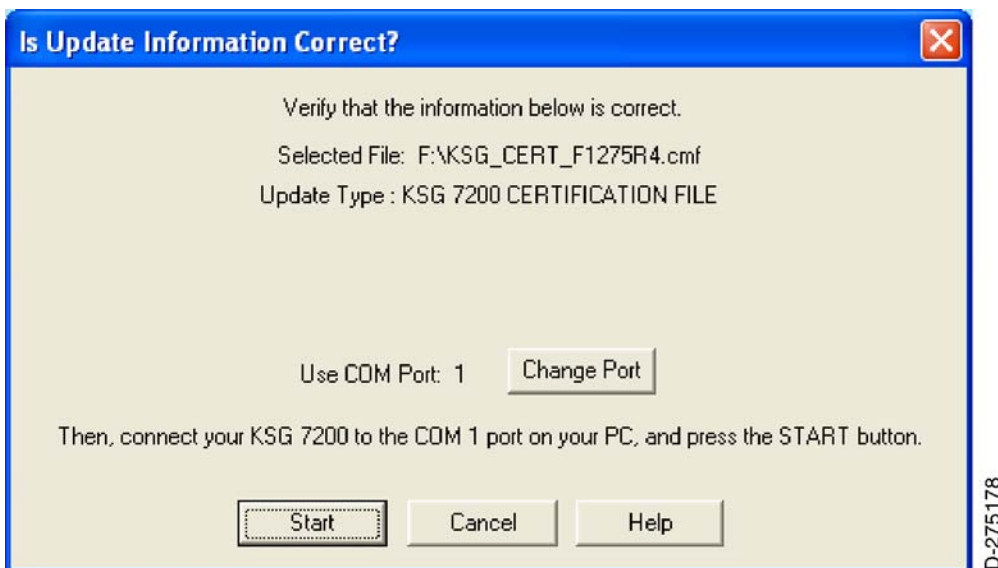

Figure 33. (Sheet 1 of 1) Is Update Information Correct? Window for Twin Otter Certification File KSG_CERT_F1275R4.cmf (Certification File 1a)
- (b) Refer to Figure 33 to identify Twin Otter Certification File 1a.